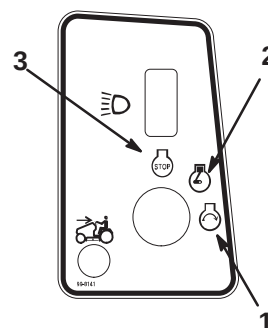

Figure 10
6. Turn the ignition key clockwise and hold it in the "START" position (Fig. 10). When the engine starts, release the key.
2. Turn the ignition key to “OFF” and remove the key (Fig. 10).